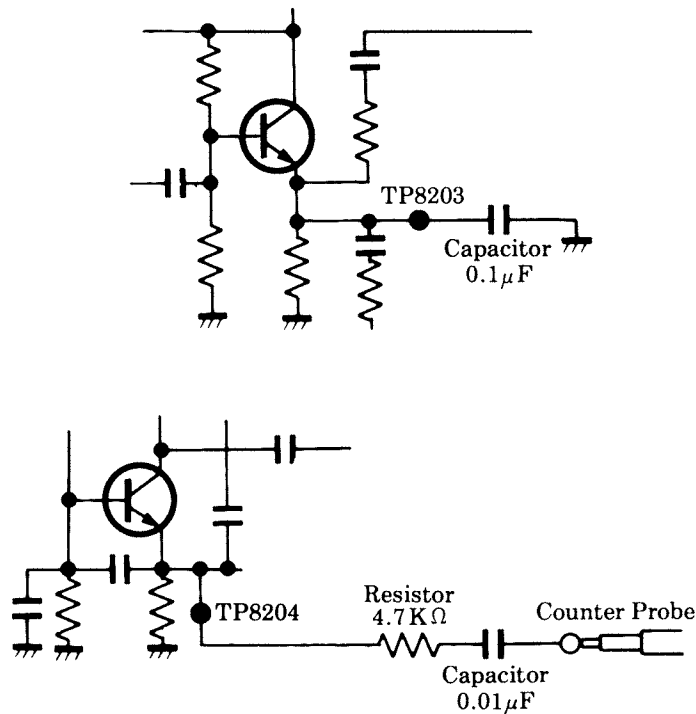

Fig. 109
4. Connect the frequency counter to TP8204 as shown in Fig. 109.